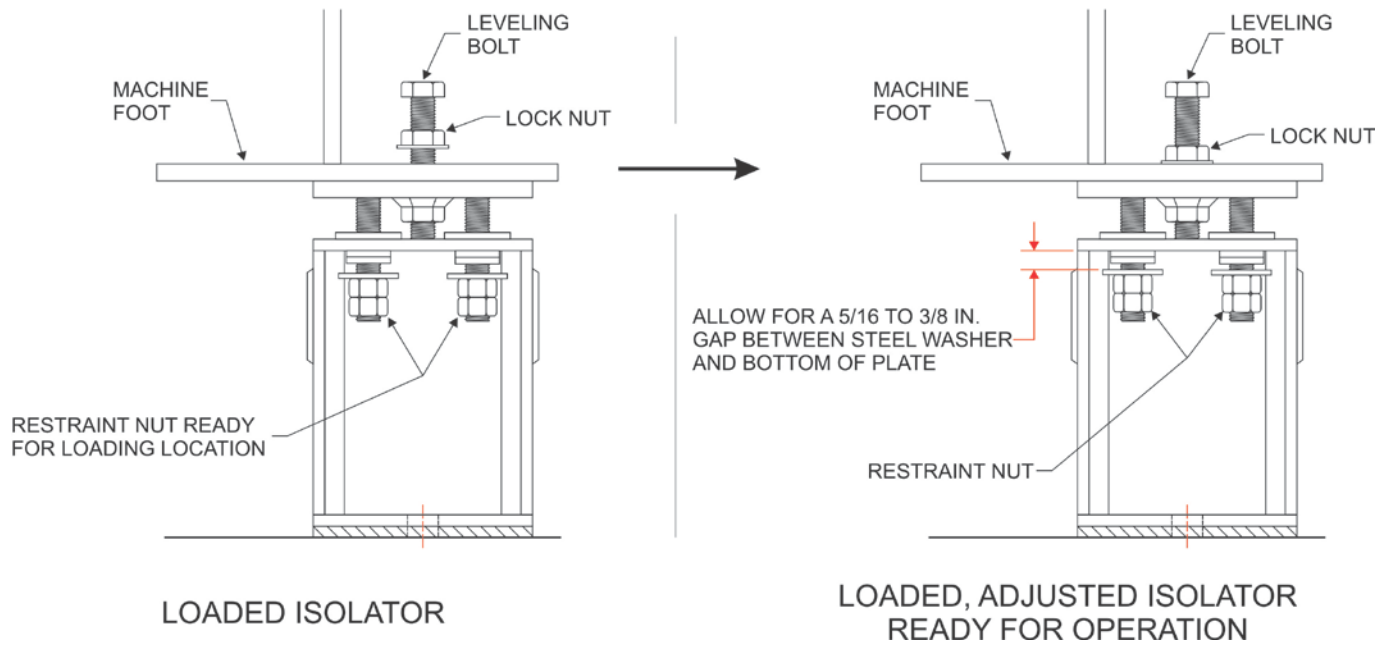

Figure 4
10. Adjust all restraint nuts to the "Ready for Loading" location. This allows the spring to deflect freely under the weight of the machine. (Review Figure 4 for clarification)
12. Tighten isolator locknuts. Adjust the restraint nuts until a gap of 5/16"-3/8" between the steel washer and the bottom of the plate. The springs should supply all support, the restraining nuts are provided to limit motion beyond typical operating movement. (See Figure 4)